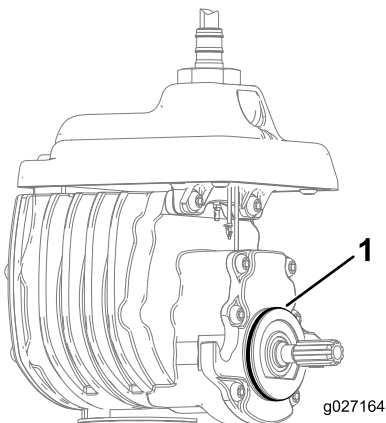

Figure 6
4. Install the O-ring on the reel motor (Figure 6).